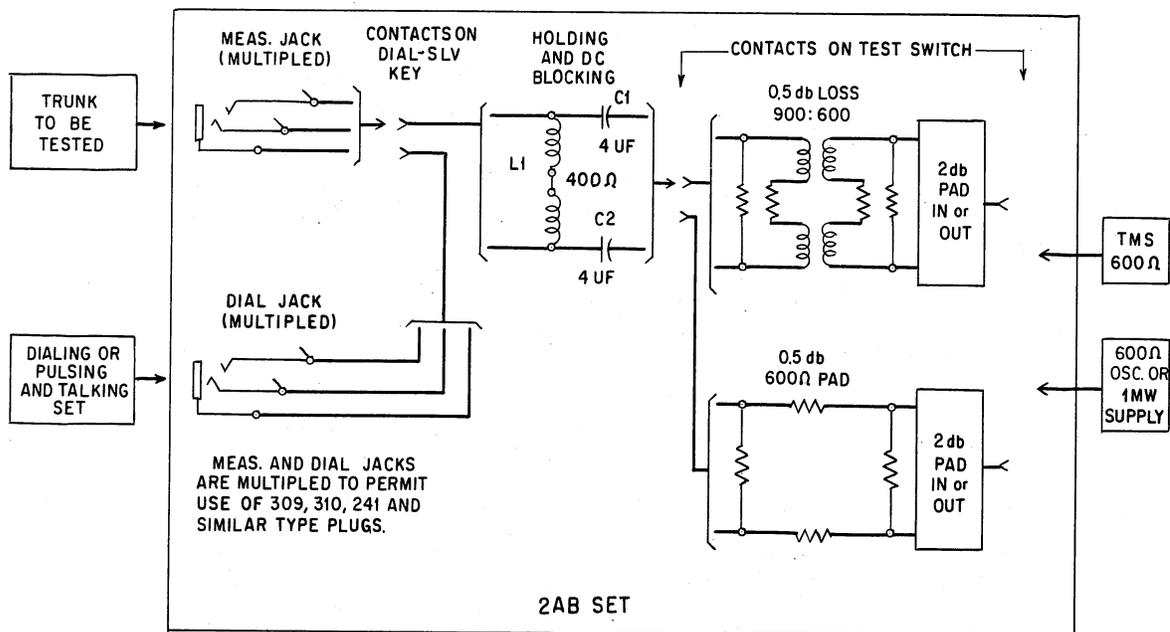
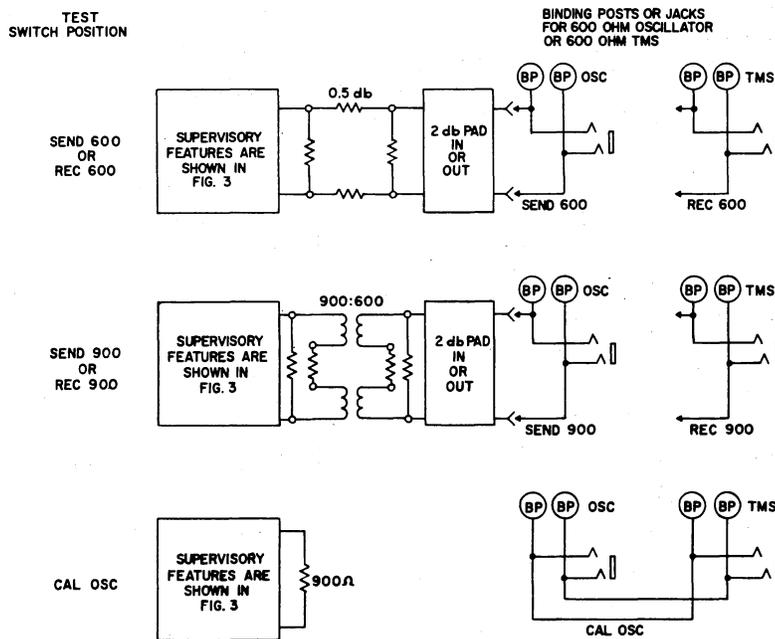

Fig. 1 - Simplified Schematic
Fig. 2 - Test Terminations
1.03 The principal features of the set are illustrated in Fig. 1. The portable set has optional arrangements for 19-inch or 23-inch
2.01 The principal circuit features of the set are shown in schematic form in Fig. 1. Switching details are shown in Figs. 2 and 3. The trunk to be tested is patched to a MEAS jack of the 2AB set. The set includes a multiplied arrangement of jacks to permit a choice among the usually available types of patch cords and plugs. Multiplied DIAL jacks are also provided for dialing, monitoring and talking arrangements. These are also useful in making preparations for tests requiring an attendant at a distant office.